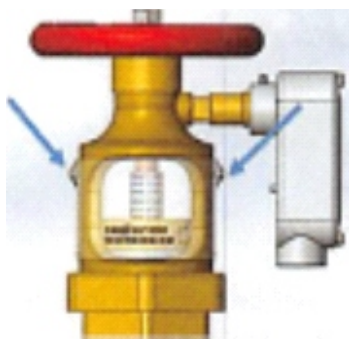

Figure 1: Tamper Resistant Security Screws
1. Remove the Tamper -resistant security screws from the clear cover by using a #833 Security tool provided with the valve. (If Supervisory Switch is installed, you may need to tilt this switch for access.) See Figure 1.